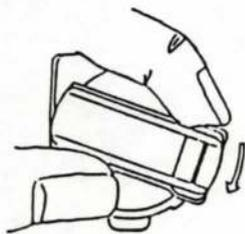

Fig. 1
- 1) Wind up the crank and stop it just before setting, and hold. (Fig. 1 )